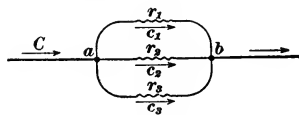

FIG. 52.
**72.** Fig. 52 represents a divided circuit of three branches. Let  $r_1$ ,  $r_2$ , and  $r_3$  be the separate resistances of those branches, respectively. Then,  $\frac{1}{r_1}$ ,  $\frac{1}{r_2}$ , and  $\frac{1}{r_3}$
**EXAMPLE.**—In Fig. 52, given  $r_1 = 5$  ohms;  $r_2 = 10$  ohms; and  $r_3 = 20$  ohms; find their joint resistance from  $a$  to  $b$ .
For example, if the currents in the three branches, Fig. 52, are 16, 8, and 4 amperes, respectively, and the joint resistance from  $a$  to  $b$  is  $2\frac{6}{7}$  ohms, then the difference of potential between  $a$  and  $b$  =  $(16 + 8 + 4) \times 2\frac{6}{7} = 28 \times 2\frac{6}{7} = 80$  volts.
For example, in Fig. 52, assume that the separate resistances of the three branches are 5, 10, and 20 ohms, respectively, and that the difference of potential between  $a$  and  $b$  is 80 volts. Then, the current in the first branch is  $\frac{80}{5} = 16$  amperes; in the second,  $\frac{80}{10} = 8$  amperes; and in the third,  $\frac{80}{20} = 4$  amperes.
For example, in Fig. 52, assume the difference of potential between  $a$  and  $b$  to be 80 volts and the currents in the separate branches to be 16, 8, and 4 amperes, respectively; then, the resistance of the first branch is  $\frac{80}{16} = 5$  ohms; of the second,  $\frac{80}{8} = 10$  ohms; and of the third,  $\frac{80}{4} = 20$  ohms.